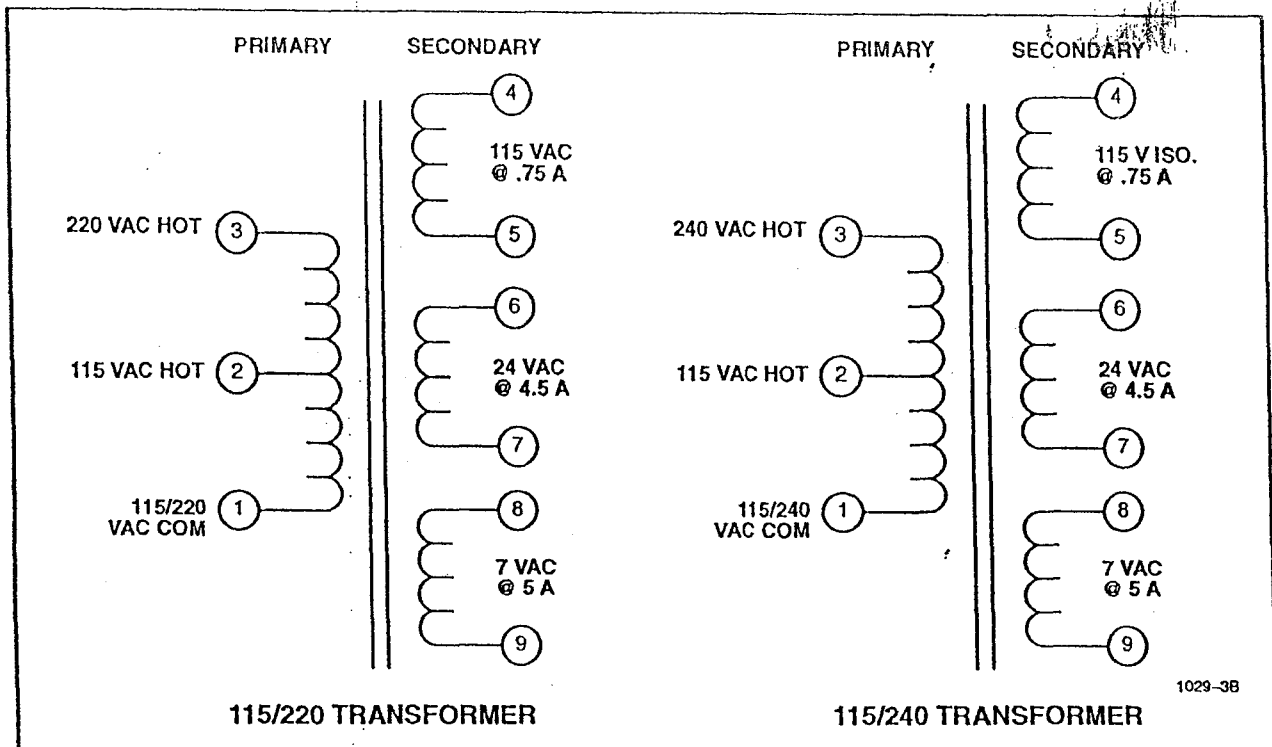

Figure 3-3. Transformer AC Voltages.
Figure 3-3 shows the main transformer AC voltages.
- b. Check each of the secondary voltages at the secondary terminals and compare to the voltages shown in Figure 3-3.